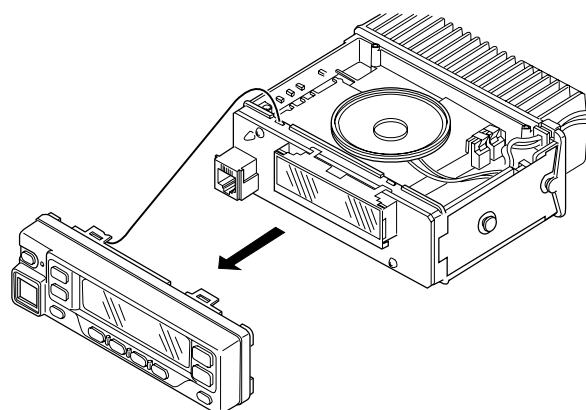

Fig. 14
1. Remove the control panel and the TX-RX unit (B/2) control section. (Fig. 14)